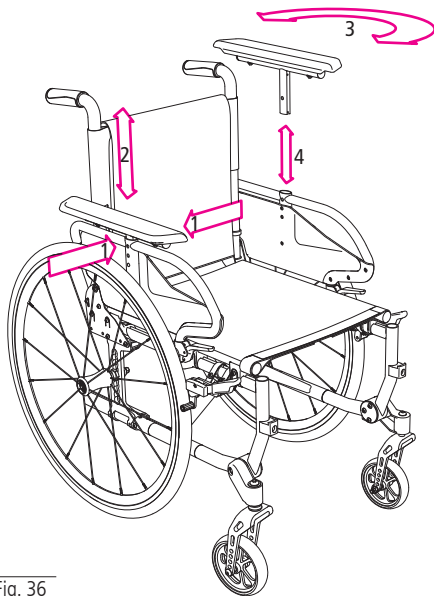

Fig. 36
1. To adjust the height, loosen the screws (1, Fig. 36).
2. Then adjust the armrest to the desired height and position (2, Fig. 36).
3. To select the length (desk or long), remove the armrest completely, rotate it 180° (3, Fig. 36) and then insert it again on the opposite side (4, Fig. 36).
4. Insert the screw again and tighten it firmly (1, Fig. 36).